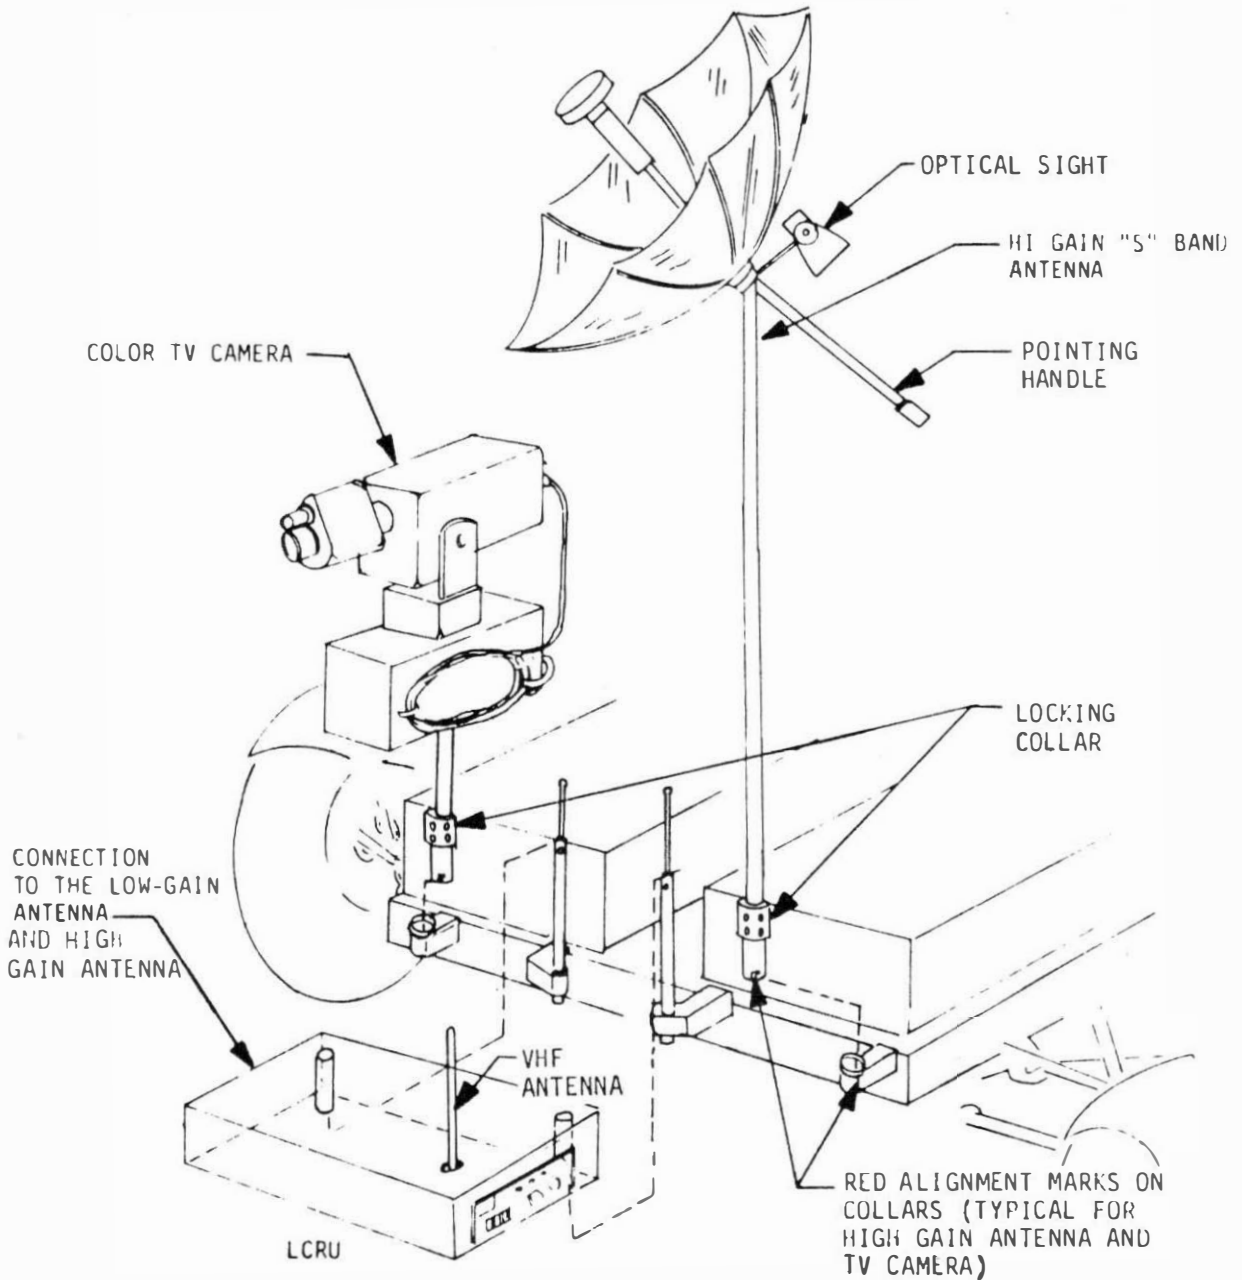

FIGURE 2-13 LCRU, HIGH GAIN ANTENNA, TV CAMERA INSTALLATION
d. Remove LCRU from its LM stowage position and place onto LRV forward chassis LCRU support posts.	Figure 2-13.